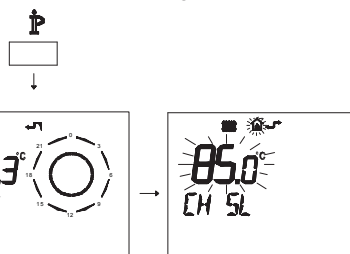

Fig. 7.31
- Press button **IP** for more than 3 seconds to enter in **INFO** mode (Fig. 7.31).